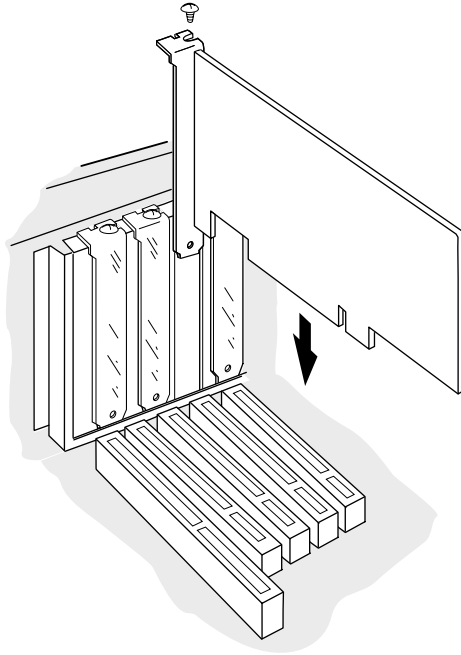

Figure 3-2. Inserting the Adapter into the Socket
- 6** Align the adapter with the PCI expansion slot, and insert the adapter firmly into the socket, as shown in Figure 3-2.